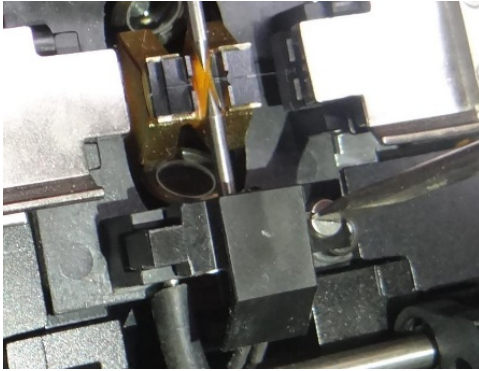

Figure 5.4
2. Loosen setscrews of electrodes cover and remove the electrodes cover, as shown in Figure 5.4